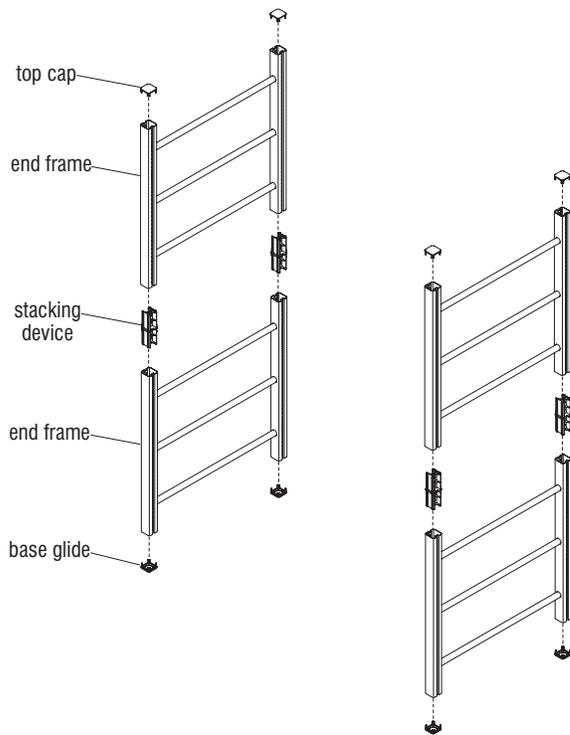

Figure 1
1. If bed layout plan includes a stacked pair of end frames (as with a bunk or loft bed) first insert a pair of base glides (with hole in center) to the bottom of the lower bed frame. Next, orient stacking devices as illustrated and insert each into the top of that lower frame. Use a weighted rubber mallet to tap the stacking devices in, seating them properly (Figure 1).
2. Place the second, upper end frame onto the stacking devices of the lower end frame and press down evenly to begin seating both frames together on the stacking devices. Use a weighted rubber mallet, tapping a little on each upper frame upright, evenly as required to properly seat two frame sections together completely (Figure 1).
3. Place a top cap onto each upright of the top frame. Repeat above procedures for second frame set (Figure 1).